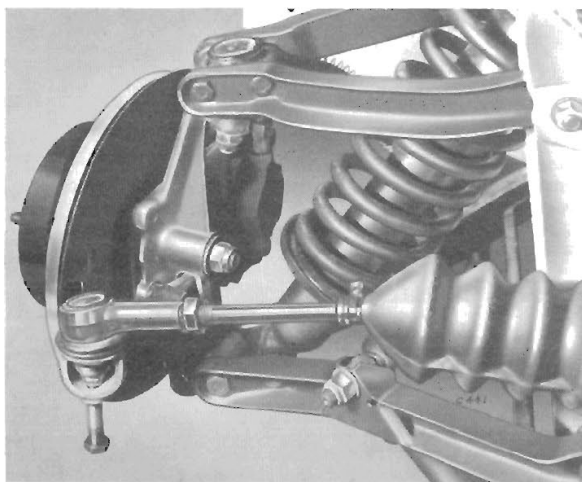

Fig. 9. Releasing tie-rod end with tool No. S.160
2. Referring to Fig. 9, extract the tie-rod ends from the steering arms, after removing the securing nuts and washers.